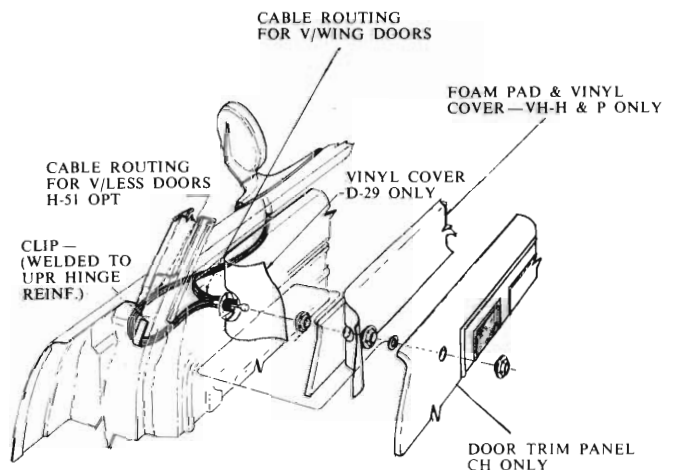

Fig. 48A - Remote control mirror cable routing
#### To Remove (Figs. 48A and 48B)
(1) Remove the inside door handles, arm rest, door trim and weather curtain.
(2) Remove the decorative nut securing the threaded end of the control unit to the front door inner panel.
(3) Push the control unit end out of the locating hole in the door inner panel and ensure to retain the lock plate attached to the control unit.
(4) On ventless doors, unhook the cable assembly from the clip as shown in *Fig. 48A*.
(5) With the window in the "UP" position and using a 7/16" AF box spanner, remove the two "whiz-lock" nuts holding the mirror assembly and spacer to the front door outer panel and remove the mirror.
(1) Installation is the reverse of the removal procedure.
(2) Ensure that the plastic sheath over the cables is pushed up to the base of the mirror to prevent cables from chafing on the door outer panel.
(3) On ventless doors, route the cable to the clip as indicated in *Fig. 48A*, prior to attachment on the door inner panel.